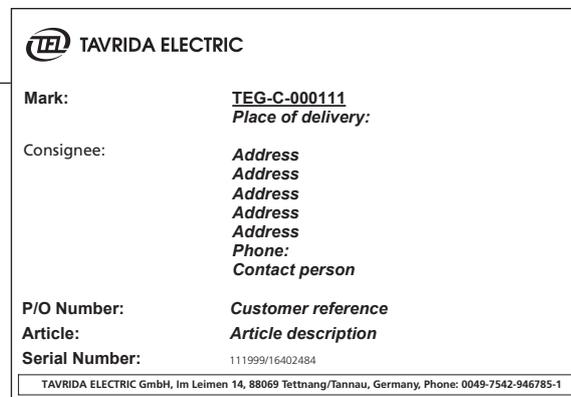

Figure 17
- label for logistics data (Figure 17).